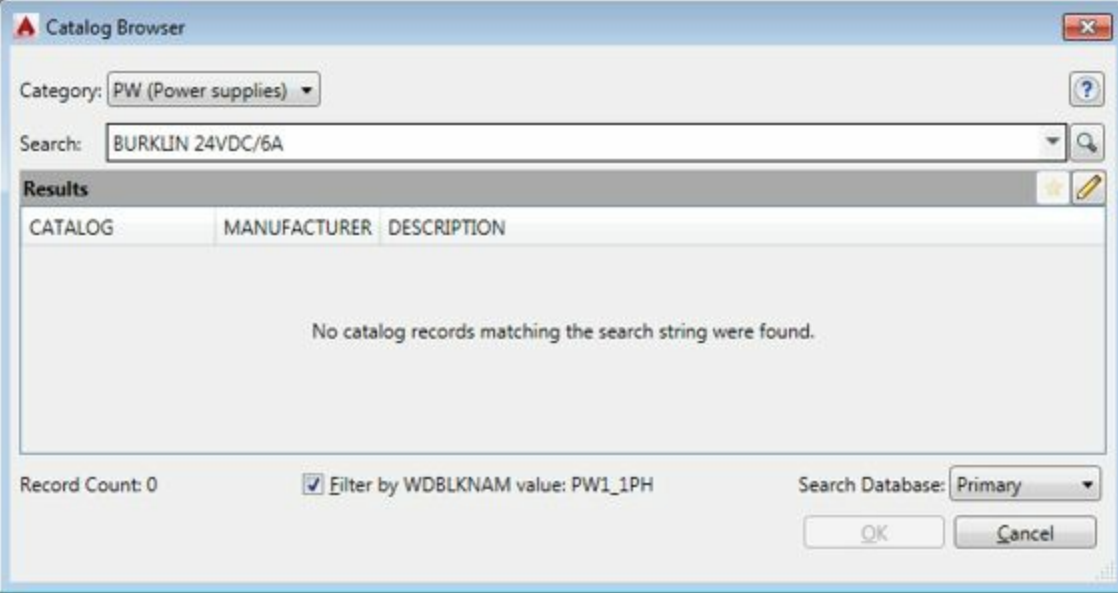

Figure-17. Catalog Browser
- Click on the **Lookup** button from the **Catalog Data** area of the dialog box. The **Catalog Browser** will be displayed; refer to Figure-17.